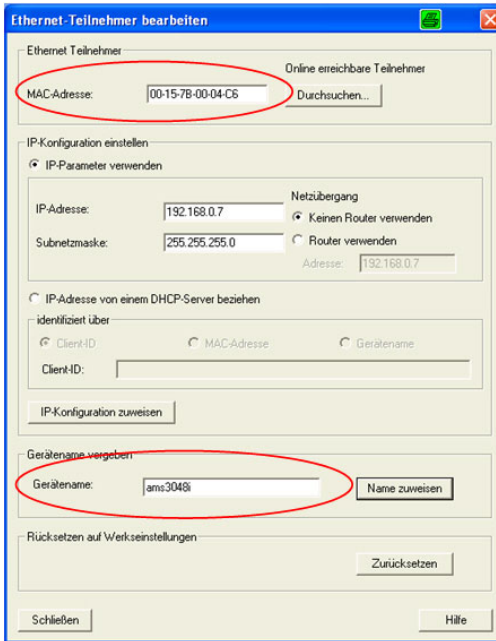

Figure 9.11: Linking of the device name to the MAC ID of the participant
- Assignment of MAC address - IP address - individual device name (see figure 9.11)